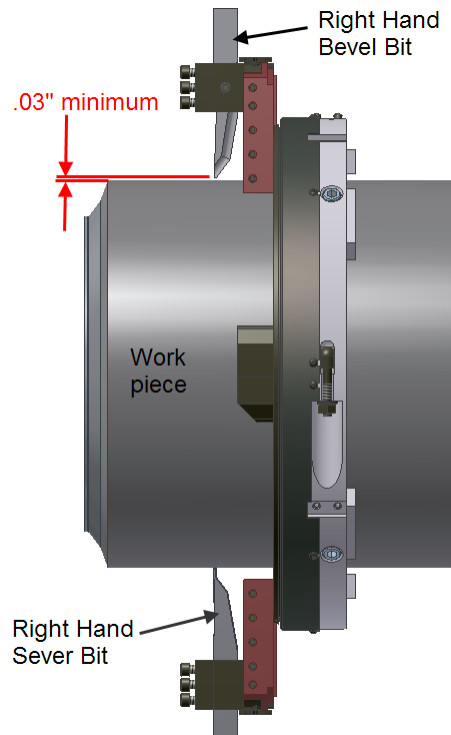

Figure 9
4. Manually rotate the cutting head counter-clockwise 1 revolution. This reverse action will push the tool bits away from any high spots in the pipe that could cause tool damage. After one complete revolution has been made tighten the cap screws on both tool blocks. Back the bevel bit 1/32" away from the work piece with the star wheel wrench (see Fig. 9).